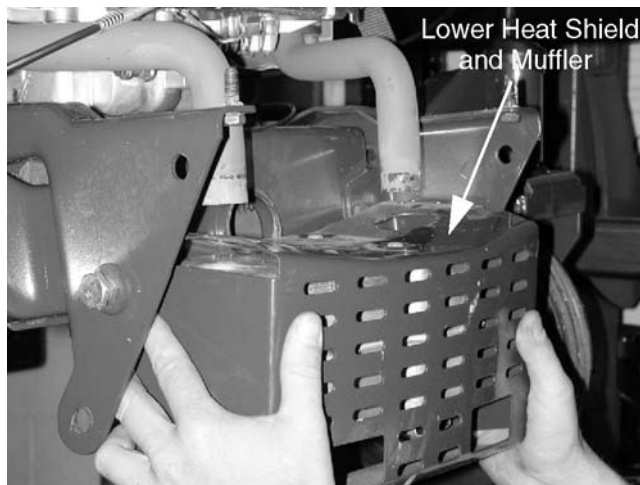

Figure 11-59
10. Unbolt the lower heat shield and muffler as a unit using a 1/2" wrench. See Figure 11-59.